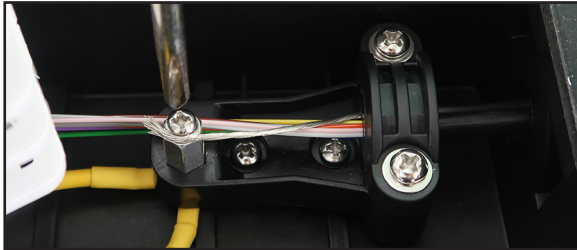

Figure 1-26: Attach the strength member
- 5 Attach the branching cable into the hole: insert the strength member, then secure the strength member with the screw (Figure 1-26).